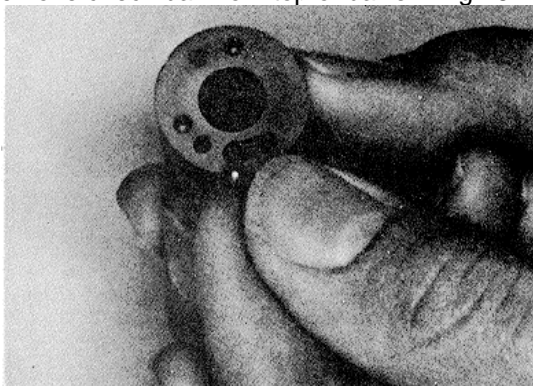

Fig. 6-1-10, F60190. Removing check ball
12. Remove check ball from top of barrel. Fig. 6-1-10.